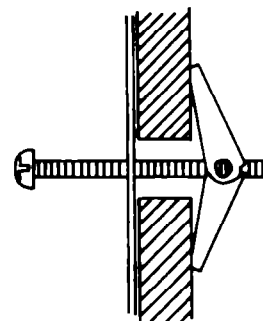

Figure 15a
5. Turn toggle bolt clockwise to tighten (Fig. 15a).